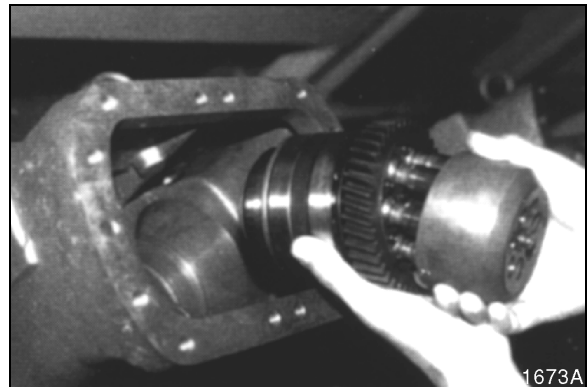

Figure 79
2. Lubricate and install idle side rotary group. See Figure 79.